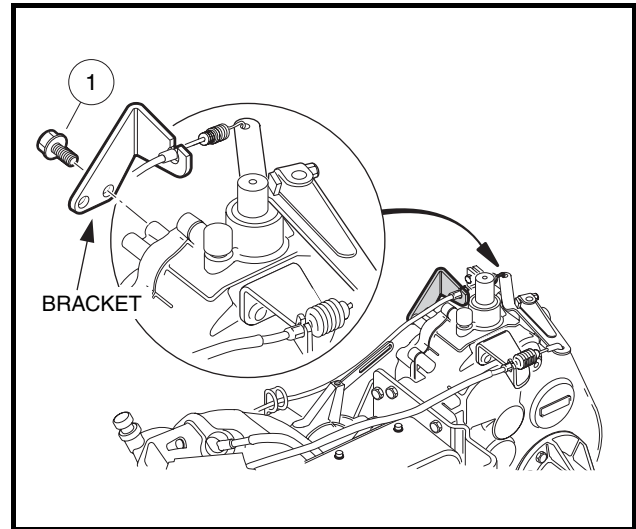

Figure 16-33 Accelerator Cable Bracket
20. Remove screws (1) securing the accelerator cable bracket to transaxle (**Figure 16-33, Page 16-13**).
6. Install the accelerator cable bracket on transaxle case. Tighten the mounting screws to 134 in-lb (15.1 N·m) (Figure 16-33, Page 16-13).